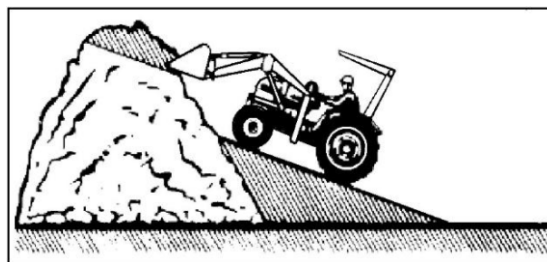

Fig 4.12.Scooping large piles
- Another method for large dirt piles is to build a ramp approach to the pile shown in figure 4.12.